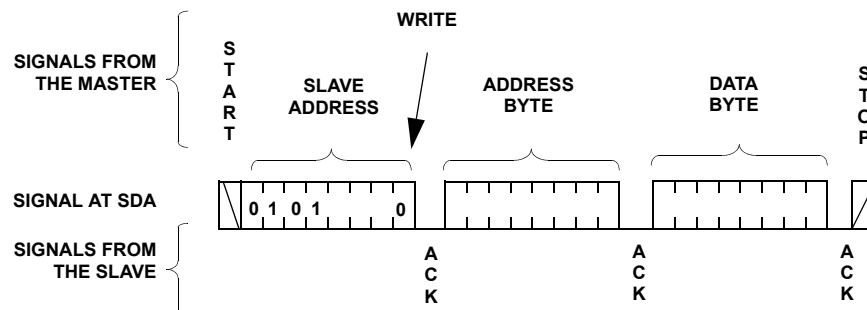
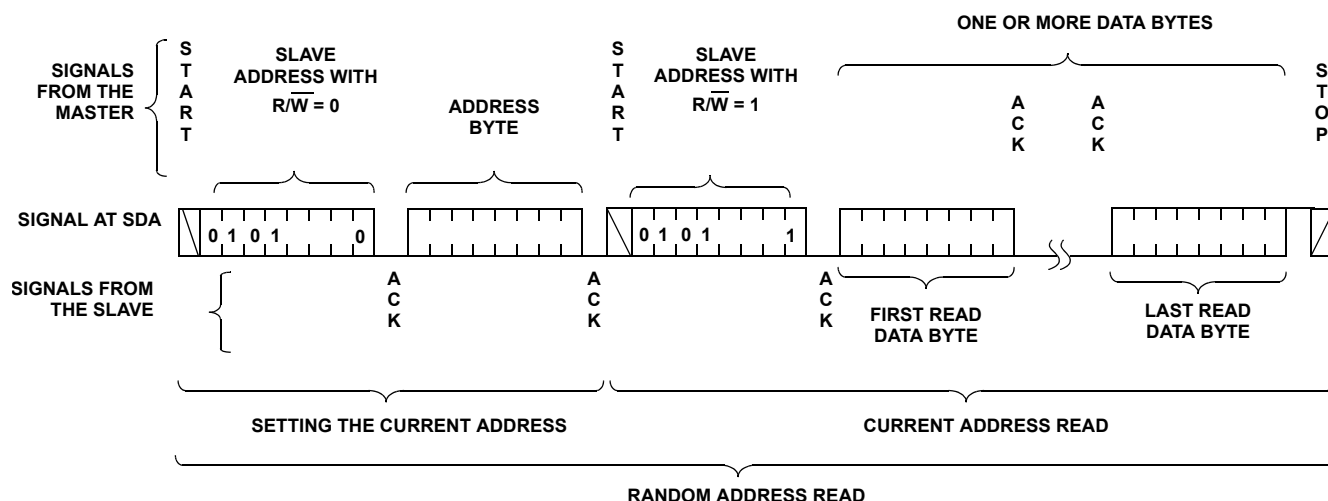

FIGURE 7. BYTE WRITE SEQUENCE
FIGURE 9. MOVE/READ SEQUENCE
14. Access the desired DR or WCR using a new write or read command (see Figure 7 for write and Figure 9 for read.)
For any Byte Write operation, the X9252 requires the Slave Address byte, an Address Byte, and a Data Byte (see Figure 7). After each of them, the X9252 responds with an ACK. The master then terminates the transfer by generating a STOP condition. At this time, if the write operation is to a volatile register (WCR, or SR), the X9252 is ready for the next read or write operation. If the write operation is to a nonvolatile register (DR), and the \overline{WP} pin is high, the X9252 begins the internal write cycle to the nonvolatile memory. During the internal nonvolatile write cycle, the X9252 does not respond to any requests from the master. The SDA output is at high impedance.
The Move/Read operation simultaneously reads the contents of a Data Register (DR) and moves the contents into the corresponding DCP's WCR and the WCRs of all DCPs are updated with the content of their corresponding DR. Move/Read operation consists of a one byte, or three byte instruction followed by one or more Data Bytes (see Figure 9). To read an arbitrary byte, the master initiates the operation issuing the following sequence: a START, the Slave Address byte with the R/W bit set to "0", an Address Byte, a second START, and a second Slave Address byte with the R/W bit set to "1". After each of the three bytes, the X9252 responds with an ACK. Then the X9252 transmits Data Bytes